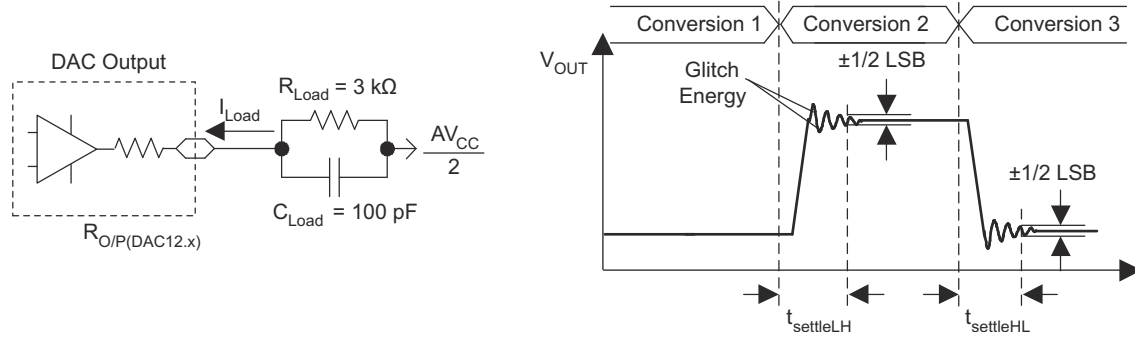

图 8-45. Settling Time and Glitch Energy Testing
- (1) R_{Load} and C_{Load} are connected to AV_{SS} (not AV_{CC}/2) in 图 8-45.
(2) Slew rate applies to output voltage steps ≥ 200 mV.